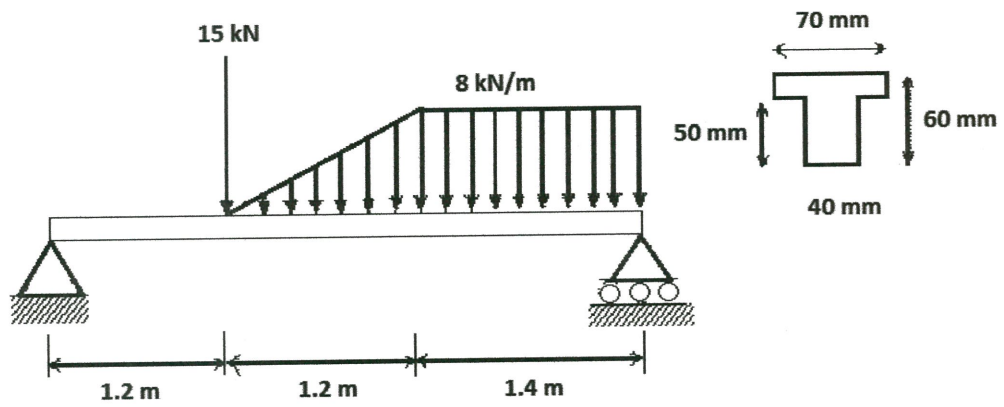

Figure Q6
- Q6.** A T-section beam is designed to support loadings as demonstrated in **Figure Q6**. Sketch the shearing and bending moment diagram for the beam. Then calculate the maximum tensile bending stress and maximum compressive bending stress in the beam.